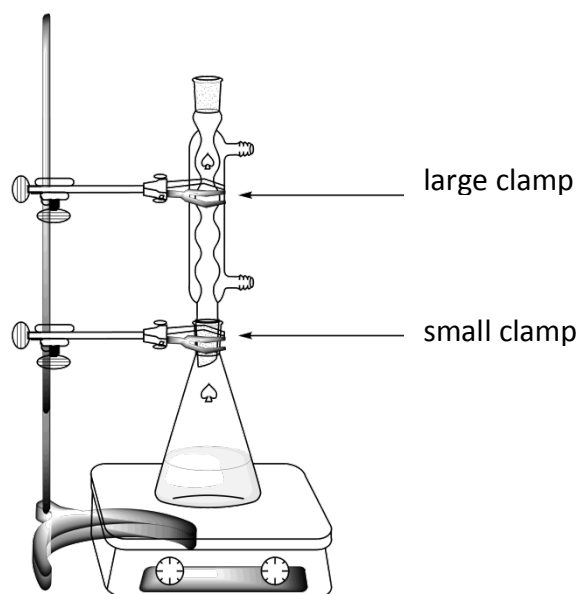

Figure 1. Setup for heating the reaction mixture under reflux
4. **Attach** the reflux condenser by loosening the large clamp and adjusting the ground joints (see Figure 1). **Raise** your HELP card. A lab assistant will come to turn-on the water and set the hotplate.
2. **Perform** the recrystallization of the crude product contained in the 50 mL ground-joint Erlenmeyer flask with the appropriate amount of this water/ethanol mixture, using the same setup as for the reflux heating (see Figure 1). **Raise** your HELP card. A lab assistant will come to turn on the water and set the hotplate. **Add** the solvent through the top of the condenser if needed.